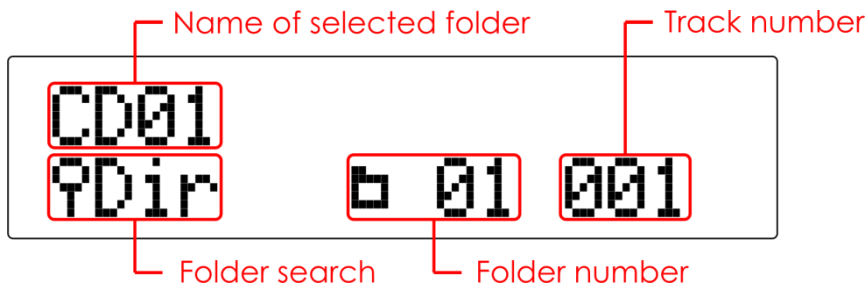

Fig. 06
04) Press the **Find (15, 29)** button again to browse through your folders. The display will look as shown in fig. 06.